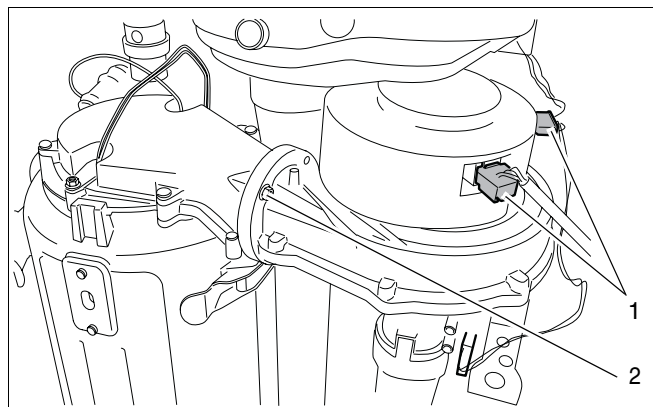

fig. 66 Remove plugs and nut
- Remove both plugs from the fan (fig. 66, item 1) and the nut (fig. 66, item 2).